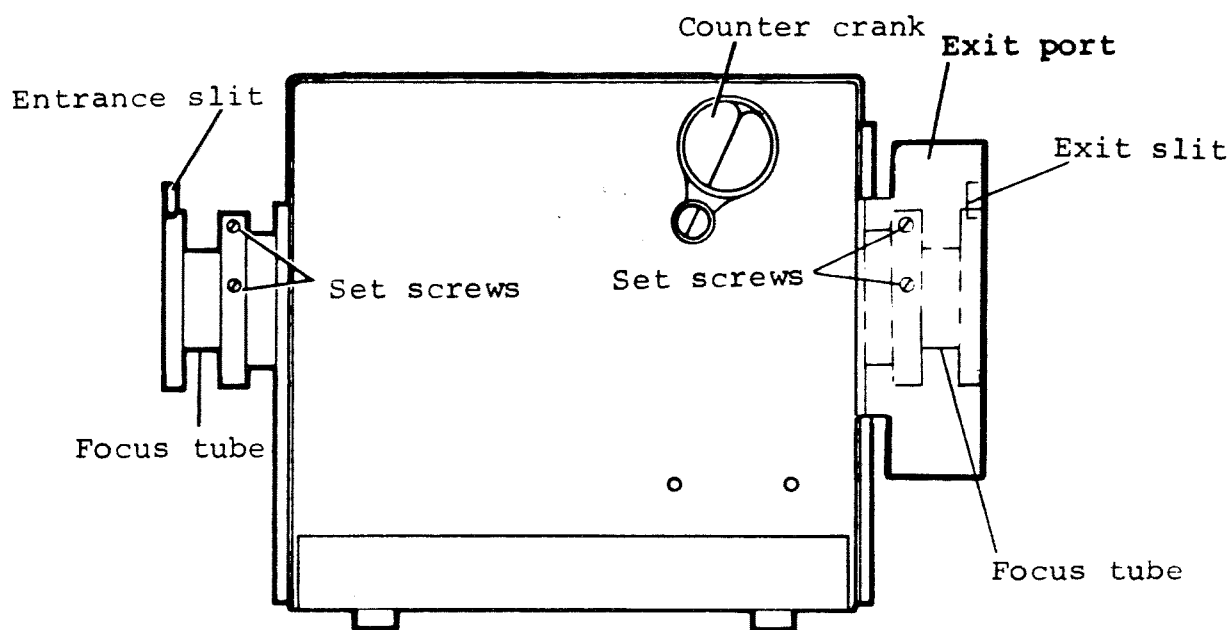

Figure 4. Focus tube and slit location.
1. Slide the entrance and exit slits into place, (See Figure 4).